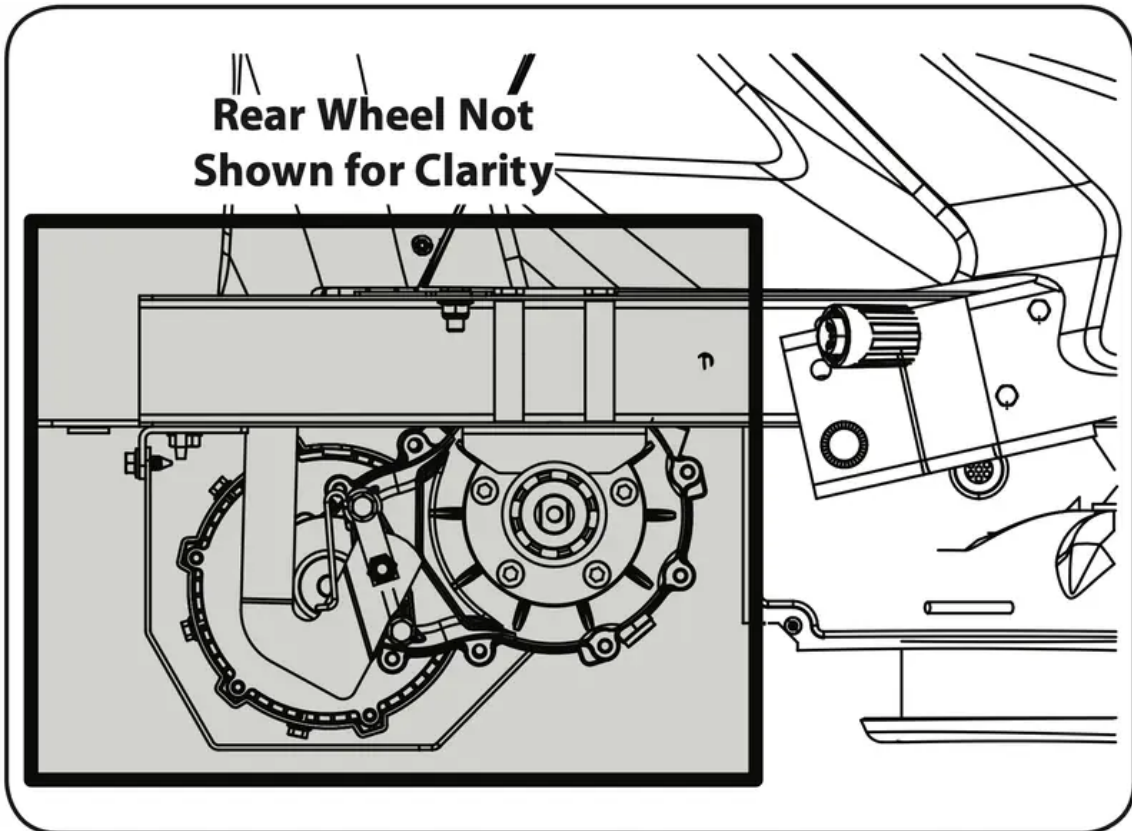

Figure 14
- Clean around and near the transmission, axle and the fan area. See Figure 14.
Front Axles: Clean around and near the transmission, axle and the fan area. See Figure 14.